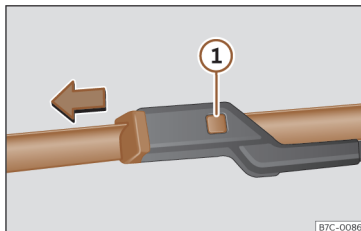

Fig. 42 Changing the windscreen wiper blades
- Press and hold release button»» Fig. 42 ① and pull gently on the wiper blade in the direction of the arrow.